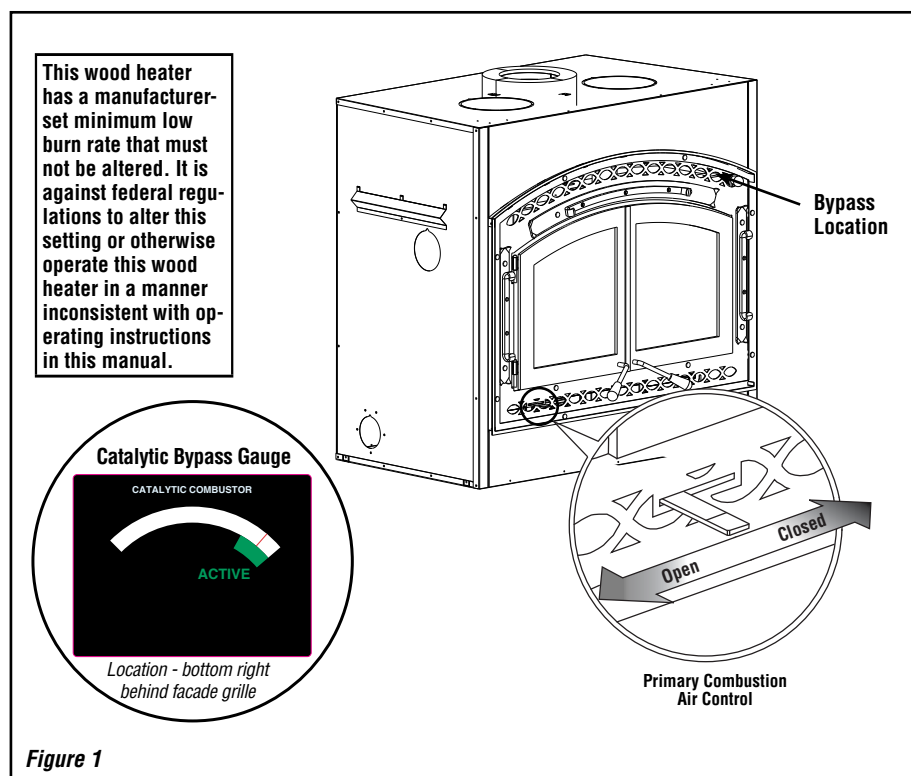

Figure 1
To determine when to close the bypass, the unit is equipped with a gauge (see **Figure 1**). The gauge is located behind the decorative facade in the lower right corner. Once you can see the gauge needle in the catalytic combustor operating range, you may push to close the bypass lever.
The air combustion control should be in the closed position when the fireplace is not in operation. This will minimize air leakage up the chimney. **The combustion air control and the bypass damper control must be opened before opening the door to minimize the possibility of back draft coming into the room (Figure 1).** More details are available in *Refueling For Best Performance* on **Page 6**.
Step 1. Open the bypass and air controls fully (see **Figure 1**).